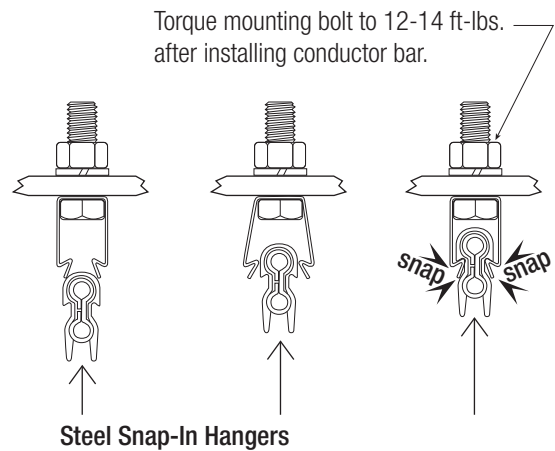

Figure: 9-2
- A. For steel snap-in hangers, torque mounting bolt to 12-14 ft-lbs. after installing all conductor bars. See **Figure 9-2**.